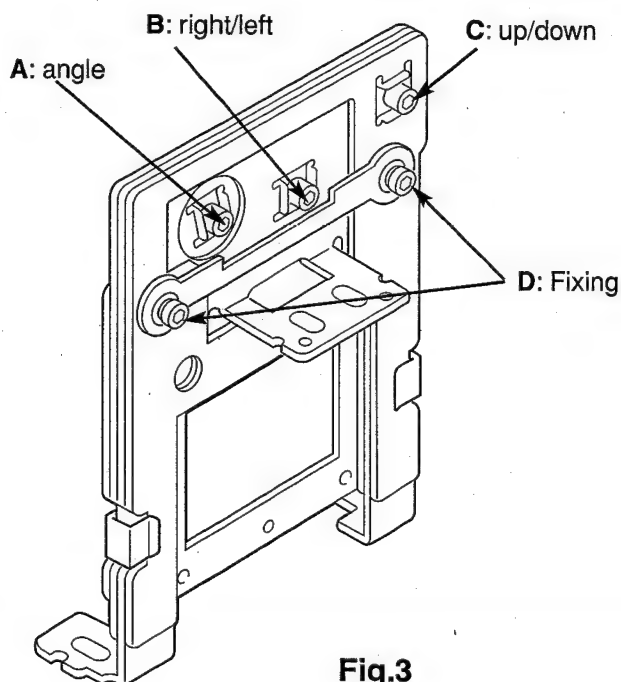

Fig.3
For convergence adjustment, use Green as the reference standard. Align Red and Blue with Green by adjusting the position and angle of the Red and Blue LCD panels. Screws "A", "B", "C" (Fig.3) are for convergence adjustment.
2. Loosen 2 screws "D" (Fig.3) using the 2.5mm wrench.